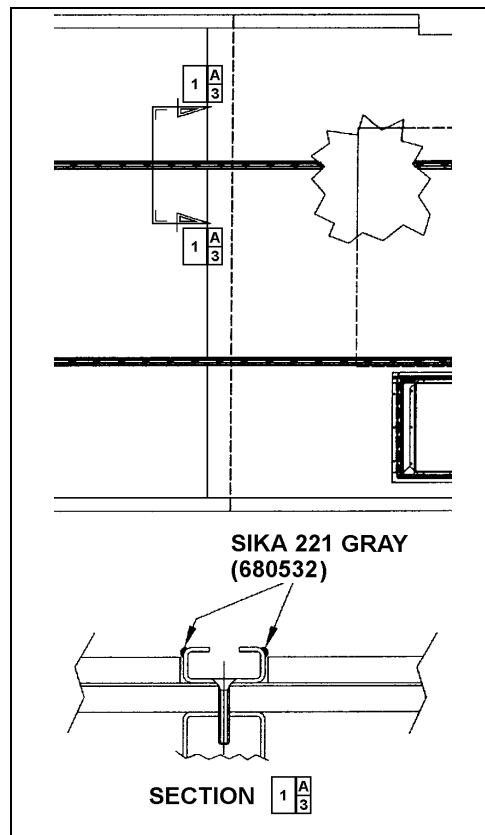

FIGURE 30: APPLICATION OF SIKA 221 GRAY
8. Apply Sikaflex 221 gray sealant (680532) alongside passenger seat fixing tracks (refer to Figure 30).